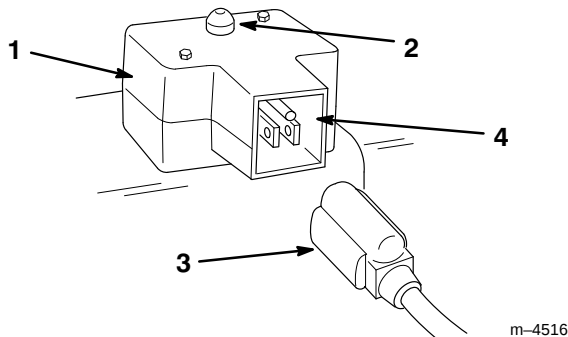

Figure 16
- **Electric Starter** (Model 38064 only: Fig. 16)—Push the starter button to start the engine.
- **Power Cord** (Model 38064 only: Fig. 16)—Connect to the electric starter and an electrical outlet when starting the engine.
- A. Connect the power cord to the snowthrower (Fig. 16) and to a standard household power outlet.
- B. Push the starter button (Fig. 16).